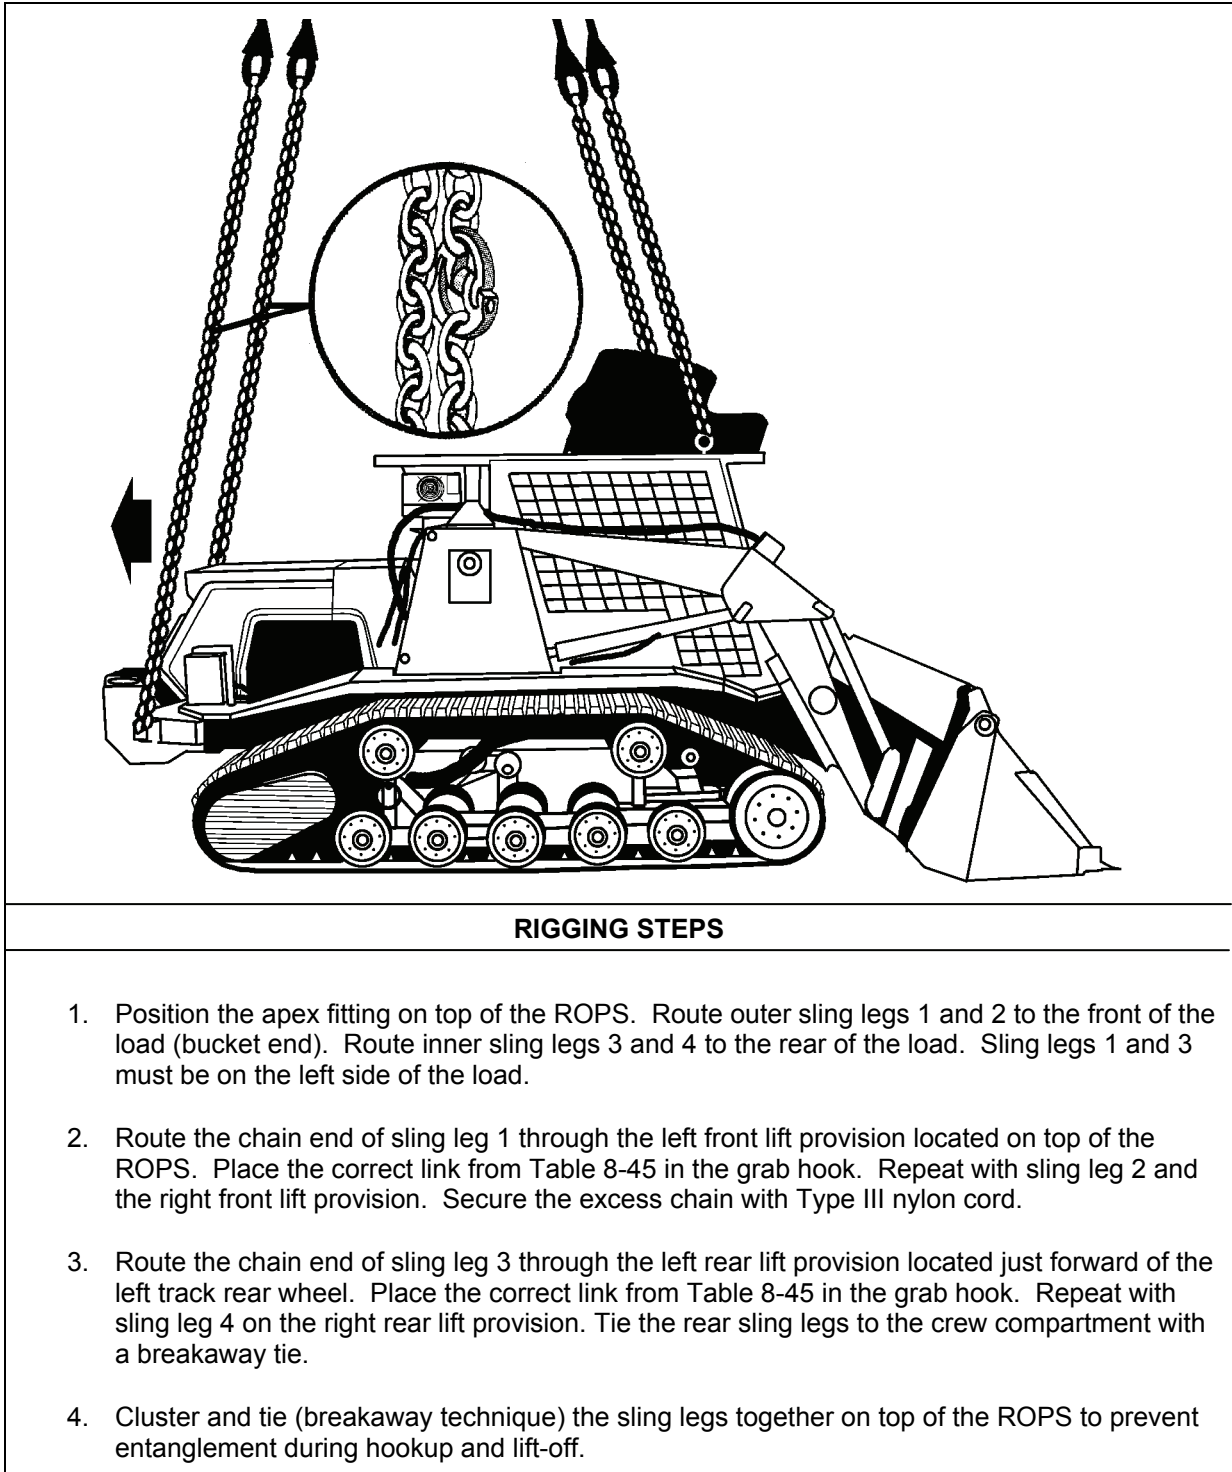

Figure 8-45. All-Purpose Remote Transport System Vehicle
- **Rigging.** Rig the load according to the steps in Figure 8-45.